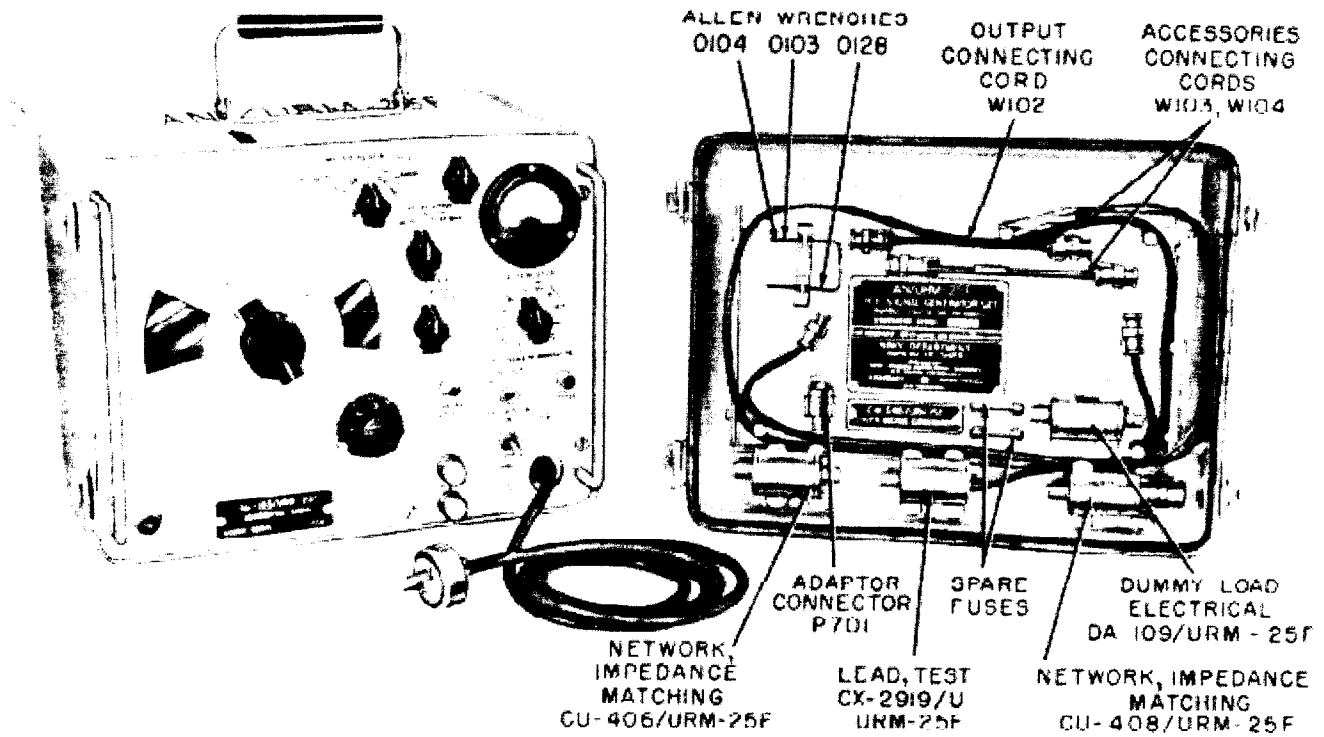

Figure 1-1. RF Signal Generator Set AN/URM-25F Complete Equipment with Accessories
*b.* All units, including the power supply, are incorporated in a single portable cabinet (see figure 1-1). The units supplied and their weights are listed in Table 1-1.
- (1) Generator, Signal.....SG-103/URM-25F
- (2) Power Supply .....PP-1322/URM-25F
- (3) Cover, Signal Generator.CW-346/URM-25F
- (4) Network, Impedance Matching